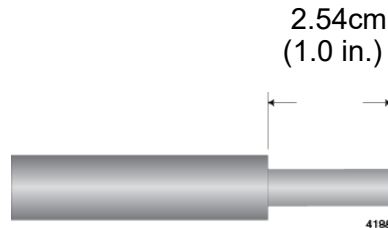

Figure 40. Stripping the Grounding Wire
1. Strip 2.54cm (1.0 in.) of insulation from the end of the solid grounding wire with a wire insulator stripper. Refer to Figure 40.